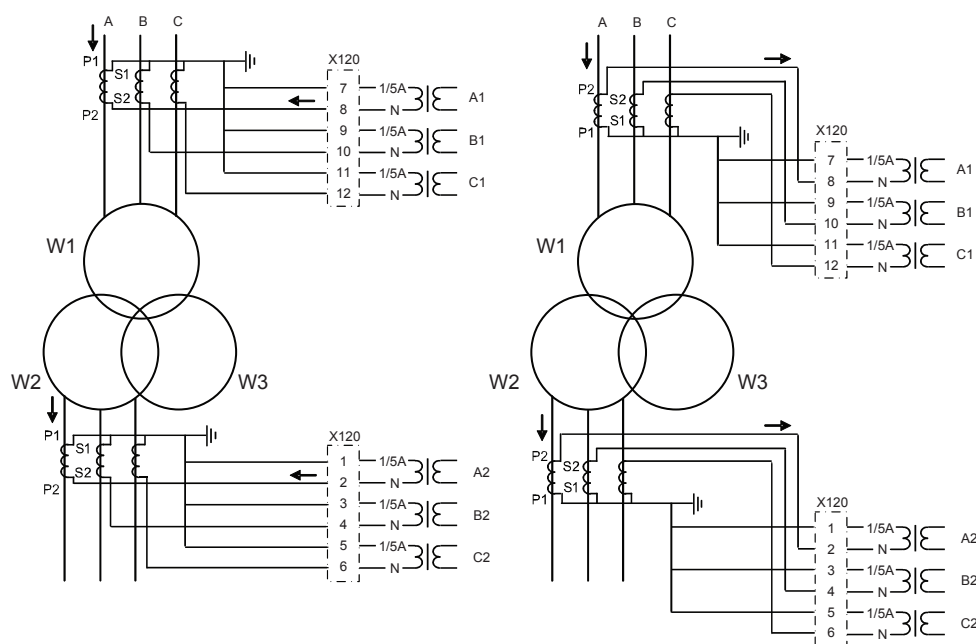

Figure 183: Connection of current transformers of Type 2 and example of currents during external fault
- If the positive directions of the winding 1 and winding 2 relay currents are equal, the setting parameter *CT connection 1-2* is "Type 2", as shown in Figure 183